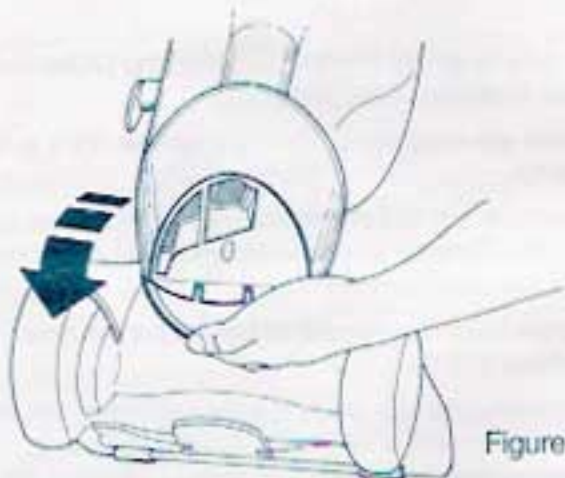

Figure 15a
3. Turn the Inspection Plate Knob clockwise out of the locked position and then swing the Rear Inspection Plate away from the rear of the machine. (Figure 15a)